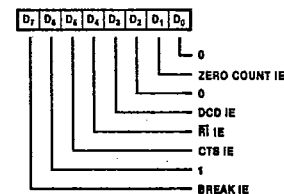

Figure 8. Read Register Bit Functions
Interrupts. When an ASCC responds to an Interrupt Acknowledge signal (INTACK) from the CPU, an interrupt vector may be placed on the data bus. This vector is written in WR2 and may be read in RR2A or RR2B (Figures 8 and 9).
Interrupt Pending (IP) bits (Channel A). Figure 8 shows the formats for each read register.